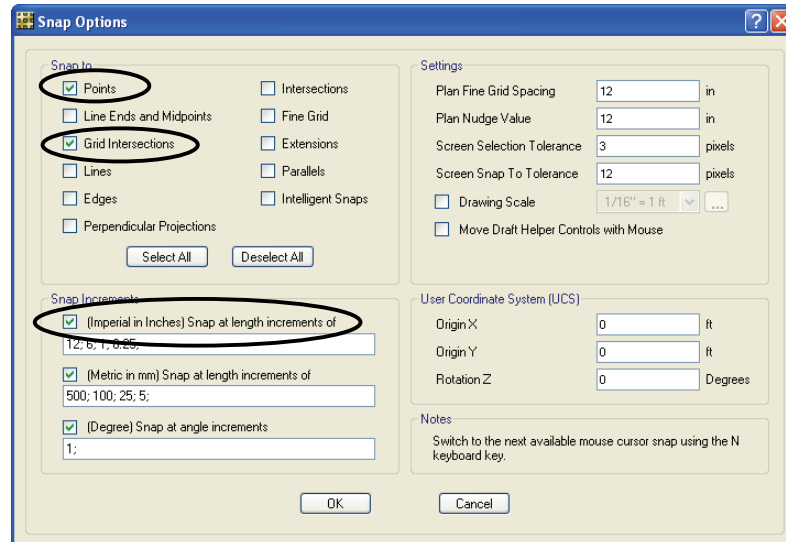

Figure 70 Snap Options form
- A. Click the **Draw menu > Snap Options** command to display the Snap Options form shown in Figure 70.